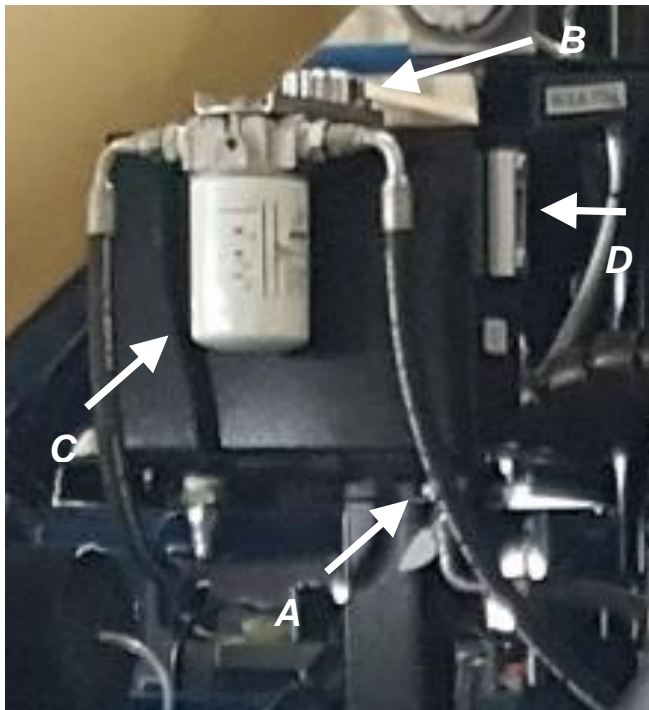

Figure 5A
- ☞ The oil reservoir [Figure 5A] of the metering drive system uses Dextron III oil. Capacity 8 liters.
Change the oil and filter from the small tank [Figure 5A] of the distribution system at the beginning of each planting season or application. The temperature changes during the offseason and can cause condensation insides of the transmission, thus reducing the efficiency of the lubrication.
To drain the oil, remove the drain plug [Figure 5A, **A**] at the bottom of the tank. To facilitate the flow, remove the filler cap [Figure 5A, **B**] and filter [Figure 5A, **C**]. Reinstall the drain plug and a new filter, then fill the tank with Dextron III oil to the recommended level, approximately 8 liters. A window indicates the oil level [Figure 5A, **D**]. Check the oil level every day, fill as needed.